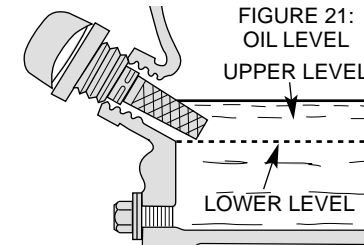

FIGURE 21:
3. Fill engine crankcase with recommended oil (See page 3). Check oil level (Figure 21).